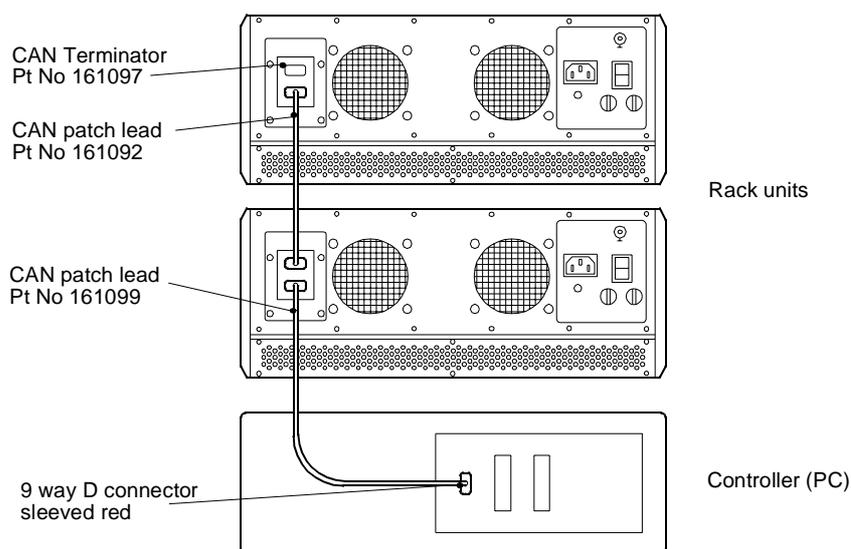

Fig. 5.3 Connecting the Controller and rack(s)
5.4.1 Connecting the Rack and Controller – Fig. 5.3.